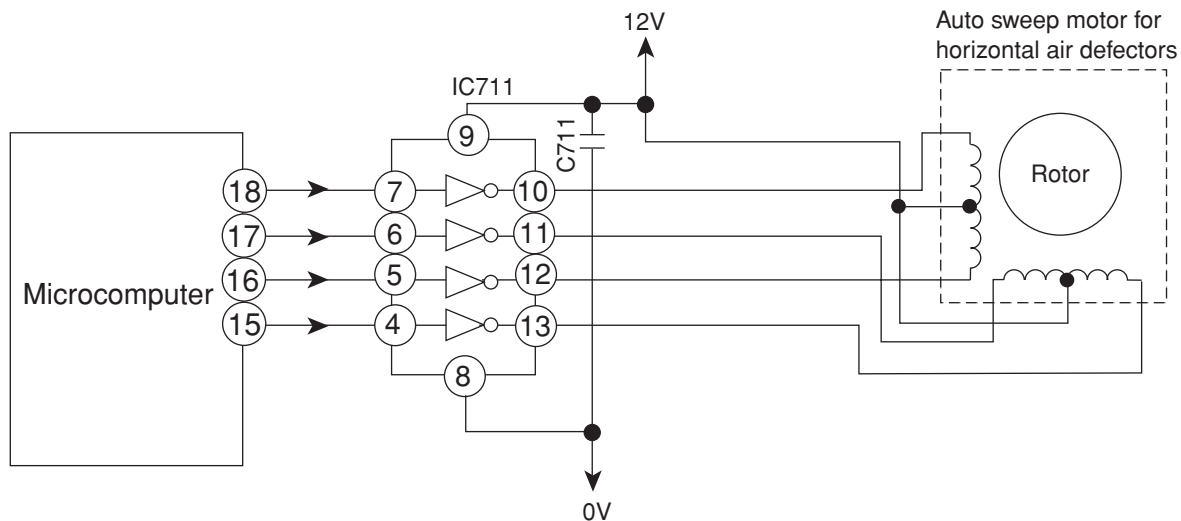

Fig.4-1
- Fig. 4-1 shows the Auto sweep motor drive circuit; the signals shown in Fig.4-2 are output from pins ⑮ – ⑱ of microcomputer.